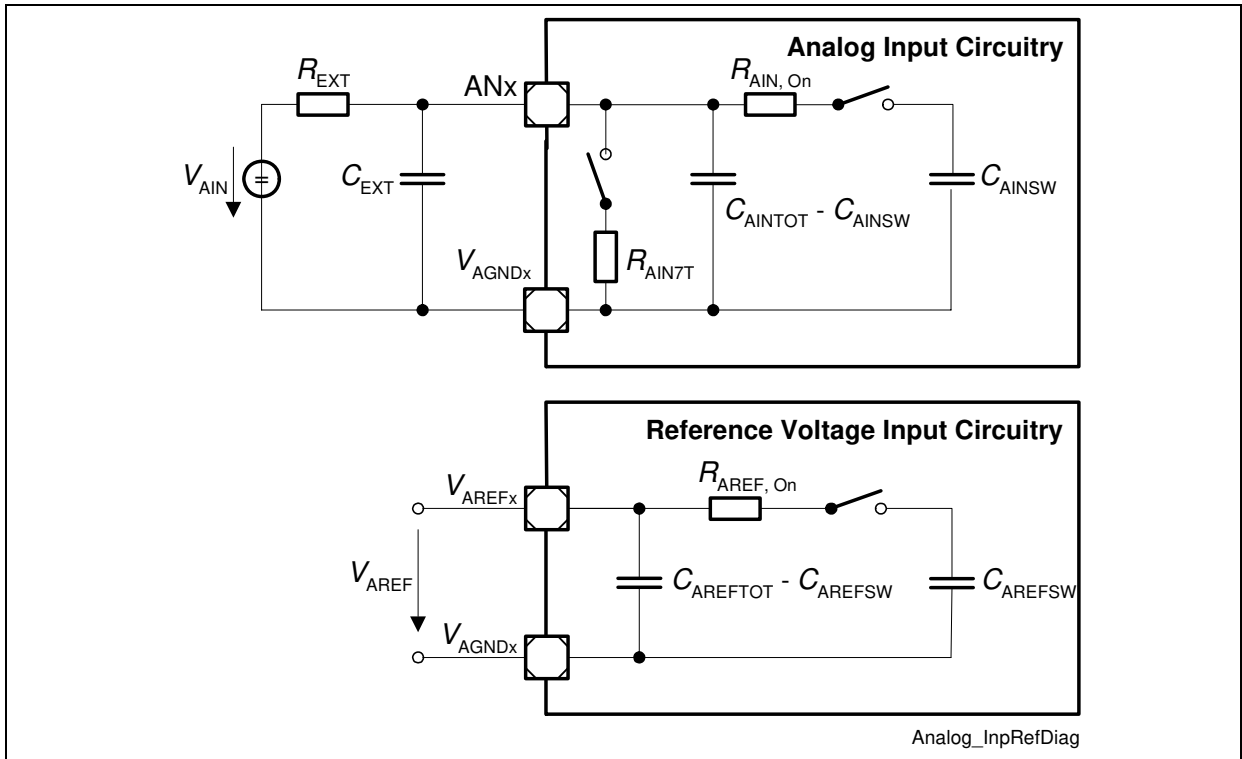

Figure 18 ADC0/ADC1 Input Circuits
- 15) For the definition of the parameters see also **Figure 18**.